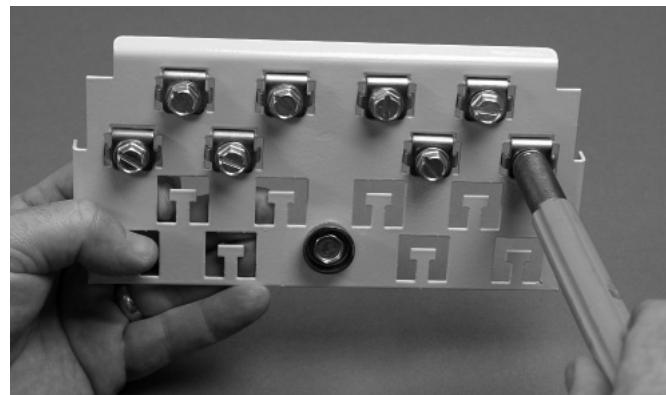

Figure 3b
6. Attach the eight strength member plates using the supplied bolts. (Figure 3b)